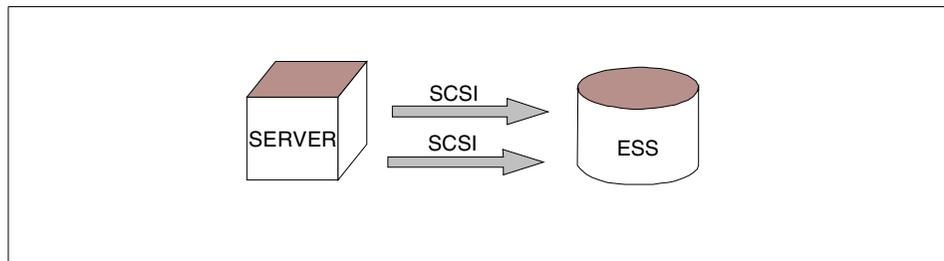

Figure 46. Multipath storage to server connection, SCSI only
1. Test that you have connectivity along both SCSI paths, see Figure 46.